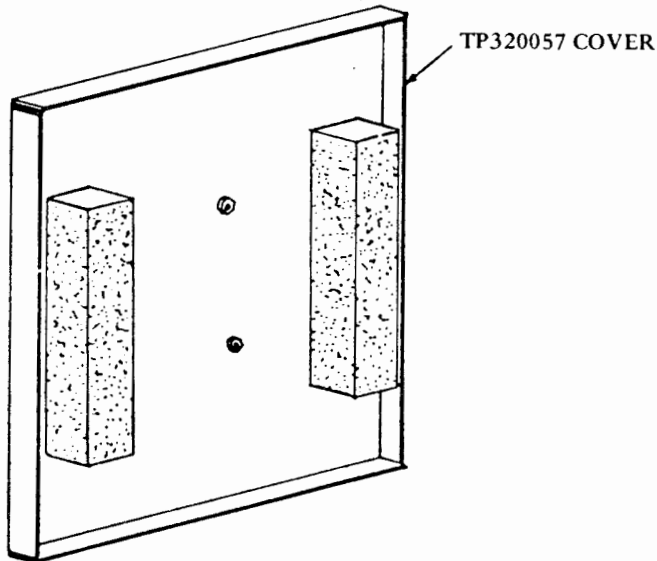

Figure 8-8. Circuit Card Hold-Down Installation for ESAs 321231 and 323121
(2) ESA 321231 and 323121. Install Neoprene rubber foam circuit card hold-downs as follows: (See figure 8-8)
the TP320057 inner cover in area shown on figure 8-8. Press foams to obtain maximum adhesion.